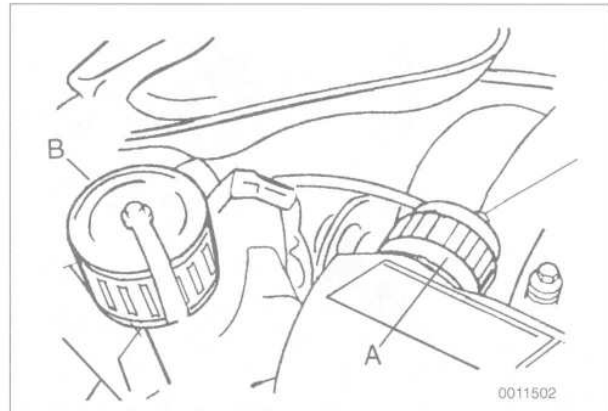

Fig. 50. Main wiring harness connector (A) and diagnostic connector (B).
- separate main harness plug and set wiring harness aside, see Fig. 50.